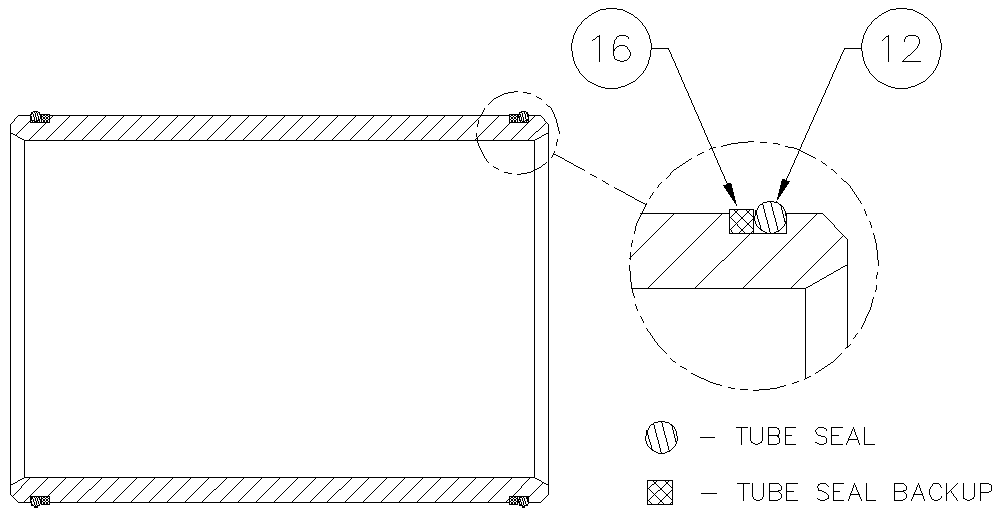
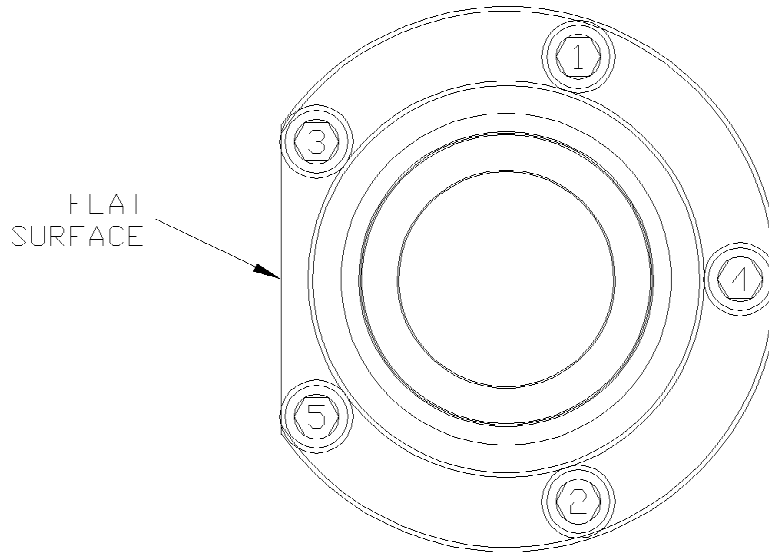
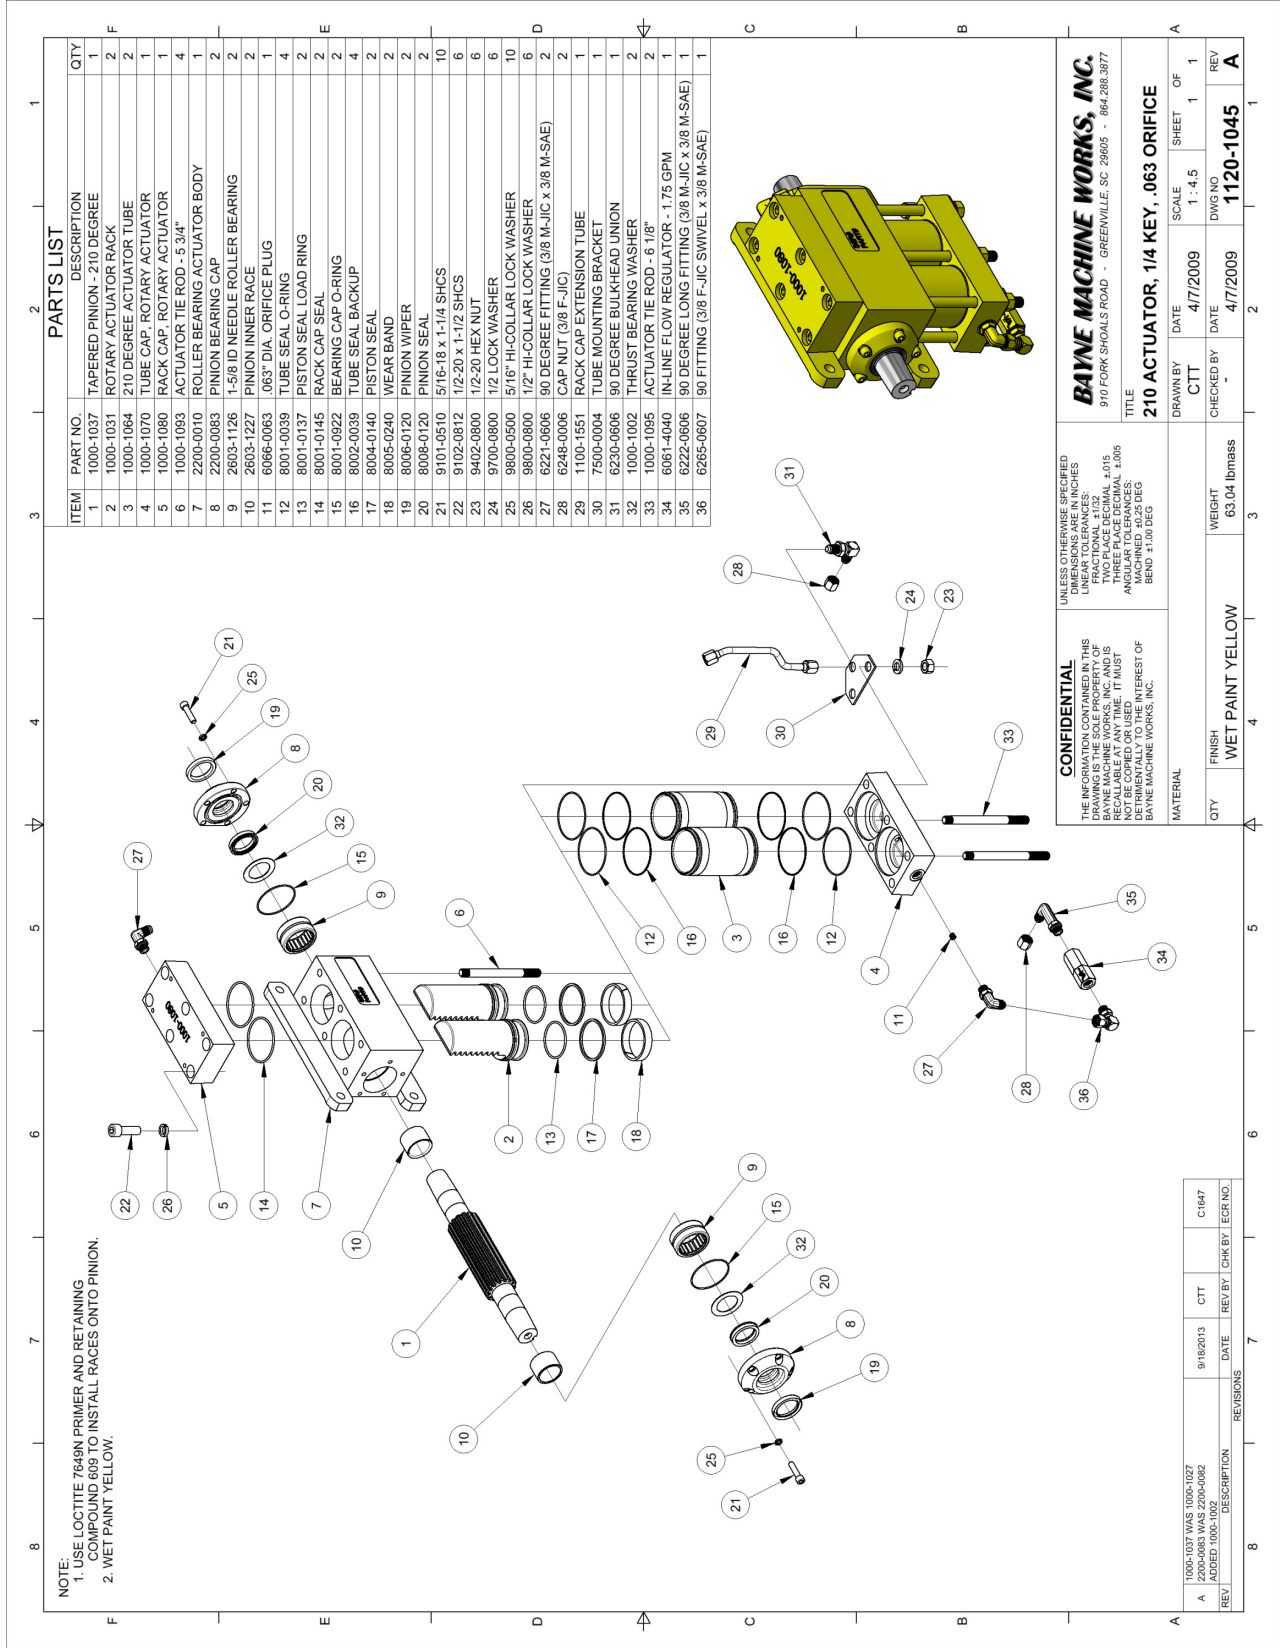

figure A-2
figure A-12
figure A-13
Before starting the assembly of the Rotary Actuator, refer to the exploded parts drawing and parts list (fig. A-13 found at the end of these instructions) to familiarize yourself with the individual components. Prepare a clean surface, in an area free of blowing dust and contaminants in which to assemble the Rotary Actuator. Be sure that all parts are thoroughly clean and dry before starting assembly.
2. Install the tube seal (12) (fig. A-2) and “square” tube seal backup (16) on each end of the actuator tubes (3) (fig. A-13). Be sure that the “square” tube seal backup ring is toward the inside of the tubes at both ends as shown. Press all rings firmly into the grooves. Repeat this procedure for the other tube.
- Coat the head portion of the racks (2) (fig. A-13) with STP Oil Treatment. Install the racks, head portion up with the teeth facing the flanges of the actuator body, into the dual set of bores in the body. Simultaneously slide the racks into the bores so that the racks mesh with the pinion in the same position. Rotate the pinion shaft to engage the racks into the pinion.
7. Coat one end of the actuator tubes (3) (fig. A-13) around the seal area with STP Oil Treatment as shown in figure A-7. Using a rubber mallet, drive the coated end of the tube onto the exposed rack until the tube end seats in the actuator body, making sure that the seals remain in place as the tube enters the counter-bore. Repeat this procedure for the other side.
8. Install the four tie rod studs (6) and two tie rod studs (33) (fig. A-13) by screwing the short threaded end into the actuator body. Hand tighten only at this time (the torque needed will be applied later in the procedure).
9. Place the tube cap (4) (fig. A-13) on the table. Coat the sides of the two bores in the tube cap with STP Oil Treatment. Install the cap over the tubes and rod studs with the oil port positioned to the left as shown in figure A-13. Using a rubber mallet, tap the tube cap over the tubes until the tubes seat in the cap, making sure that the seals remain in place.
10. Place the tube mounting bracket (30) (fig. A-13) over the two end rod studs opposite the oil port in the tube cap as shown in figure A-13.
11. Install the hex nuts (23) (fig. A-13) and lock washers (24) on the tie rod studs. Torque the nuts to 50 ft-lb. in the sequence shown in figure A-8.
12. Place the rack cap (5) (fig. A-13) bore side up on the table and coat the edge of each bore with STP Oil Treatment. Install the rack cap seals (14) (fig. A-9) in the rack cap.
13. Reposition the actuator on the table mounting flanges down, and the lower tubes facing away from the assembler. Rotate the pinion shaft to allow 1" of the rack to protrude from the top of the actuator body. Install the rack cap with the oil port positioned to the left hand side of the actuator opposite the bottom oil port located in the tube cap as shown in figure A-13. Attach the rack cap to the actuator body using the socket head bolts (22) (fig. A-13) and lock washers (26). Torque the bolts to 90 ft-lb. in the sequence shown in figure A-10.
15. Re-center the actuator pinion in the actuator body by tapping on one end of the shaft with a rubber mallet. Install the roller bearing (9) (fig. A-13), over the pinion shaft and inner race, and into the actuator body. Repeat this procedure for the other bearing.
18. Wrap masking tape or electrical tape around the pinion to cover the edges at the keyway. Slide the bearing cap assembly over the pinion shaft with the bearing cap seal facing toward the actuator body and the flat surface of the flange shown in figure A-12 facing toward the actuator mounting flanges. Press against the bearing cap until the shoulder seats against the actuator body, making sure that the seals remain in place. Install the bearing cap bolts (21) (fig. A-13) and lock washers (25). Hand tighten only at this time. Repeat this procedure for other bearing cap.
19. After both bearing caps have been installed, torque all bearing cap bolts to 30 ft-lb. in the sequence shown in figure A-12.
20. Install the 90° fitting (27) (fig. A-13) into the oil port on the side of the rack cap (5). Hand tighten only at this time.
21. Install the 90° bulk-head fitting (31) (fig. A-13) up through the hole in the tube mounting bracket (30) bolted to the tube cap as shown in figure A-13. The 90° end must be pointing back toward the mounting flanges on the actuator body. Hand tighten only at this time.
22. Install the rack cap extension tube assembly (29) (fig. A-13) between the fitting in the rack cap and the bulk-head in the tube mounting bracket as shown in figure A-13. Tighten all connections.
23. Install the orifice plug (11) (fig. A-13) into the oil port on the side of the tube cap (4), and install the 90° fitting (27) into the oil port over the orifice plug as shown in figure A-13. Install the flow regulator (34) and necessary fittings (35) and (36) as shown and tighten.
24. Install the cap nuts (28) (fig. A-13) onto the open fittings to prevent contamination of the unit until the hoses are installed.